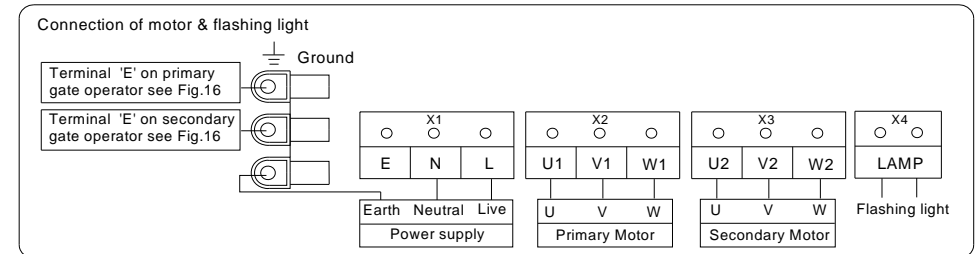

Fig.19
**Power** (see Fig.19)
**Motor** (see Fig.19)
Attach two wires of flashing light to port 'LAMP'. See Fig.19